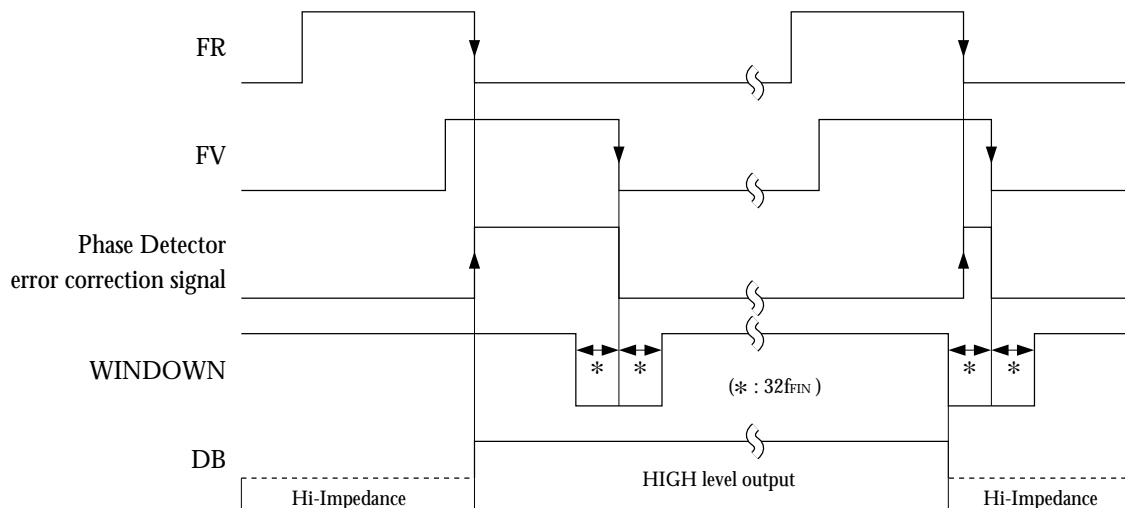

Figure 6. boost-up signal timing
When the PLL is operating with a phase error within fixed tolerance, an internal WINDOW signal is generated, as shown in figure 6. This signal is in sync with the N counter output signal (FV) and is 64 cycles of the FIN input period in length centered about the falling edge of FV.